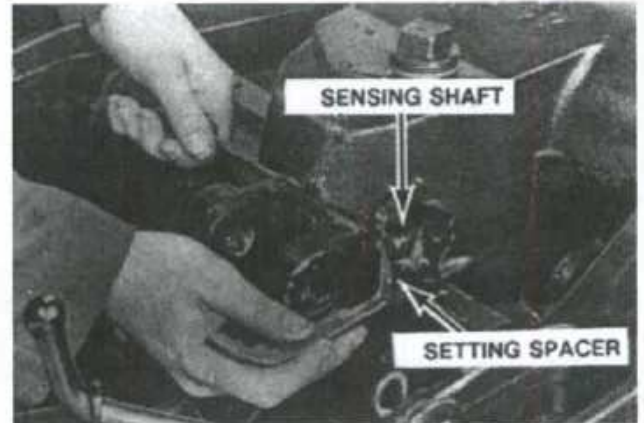
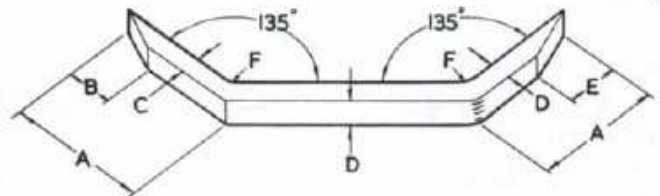

Fig. 159—Insert special setting spacer between third link bracket and sensing shaft.
Fig. 160—Special tool to be made up in shop. Refer to text.
**134. DRAFT CONTROL LEVER.** Start engine and operate at 1000 rpm. Move position control lever into full lower position and the raise rate lever rearward into the fast raise position. Move draft control lever fully forward. Use a pry bar to move the draft sensing shaft into the hydraulic housing. Insert the 5/16 inch (8 mm) end of setting spacer (special tool to be made up) between the bracket and end of sensing shaft as shown in Fig. 159. Special tool Fig. 160 can be made up in shop from a 5/16 inch (8 mm) square mild steel bar (6-1/2 inches (165 mm) long. Loosen locknut, then make adjusting rod for draft control lever shorter until the hitch just starts to raise. Then, turn adjust rod 1 to 1-1/2 turns in opposite direction. Tighten locknut. Remove the setting spacer (special tool) and check to see that sensing shaft is contacting the bracket.